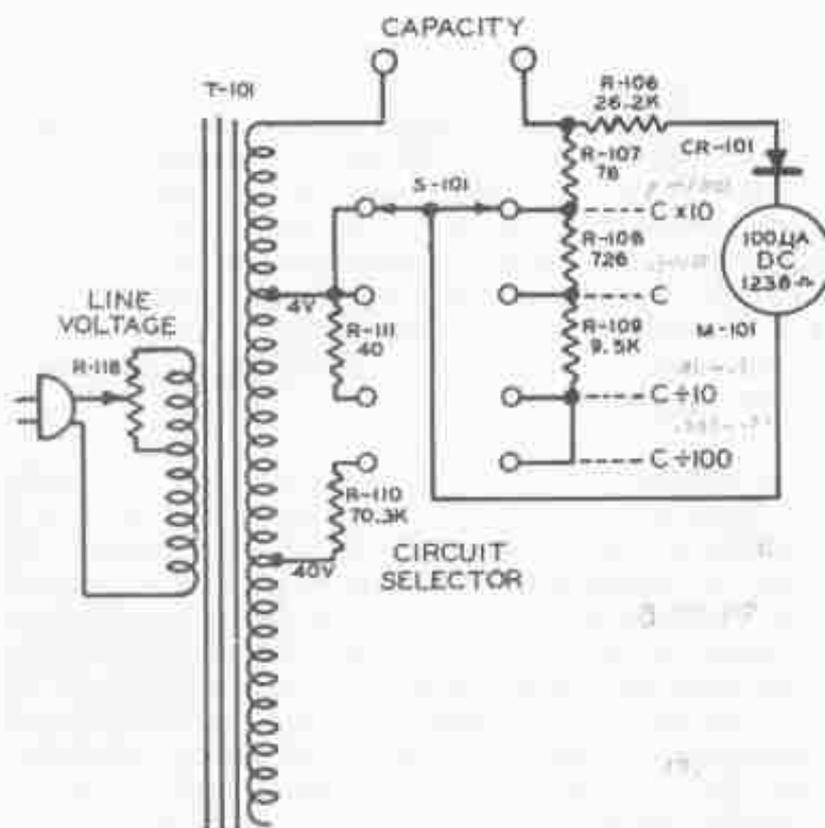

Figure 2-2. Simplified Schematic, Capacity Meter Section of Tube Tester
(e) Connects the indicating meter into the capacity meter network, as shown in the simplified schematic, figure 2-2, and is used on four positions to select the required capacity range. The switch is so designed that the Tube Tester transformer will be energized on all switch positions except the first position marked OFF.
c. CAPACITY METER SECTION OF TUBE TESTER TV-4A/U. (See figure 2-2.) - In this section of the Tube Tester, the circuit on each range consists of an AC potential supplied by one of the transformer windings and applied through a series resistance and an instrument shunt network to the capacity jacks which in turn are connected across the capacitor under test. Effectively, the instrument operates as an AC milliammeter indicating the impedance of the capacitor under fixed applied voltage conditions. A current limiting series resistor is used on each range so that the capacity meter operates very much like a conventional series ohmmeter. By short circuiting the Test leads, the LINE VOLTAGE control R-116 can be rotated, adjusting the applied potential for a full-scale deflection of the milliammeter pointer. This is equivalent to zero external impedance or infinite capacitance. The insertion of capacity between the test leads will then increase the impedance of the circuit causing the meter to deflect a given amount for each capacitance. This capacitance is calibrated directly on the dial for a 60-cycle power supply.